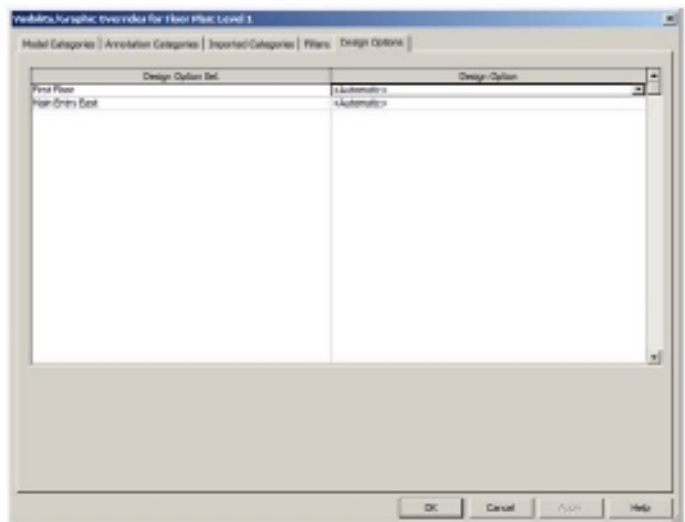

Figure 15.9
2. Next use the Visibility/Graphics (VG) to change each view from showing the Automatic value or Primary option and showing a specific design option. On the Design Options tab (see Figure 15.9), you will see each of your design option sets listed and a drop-down that allows you to select a particular design option.